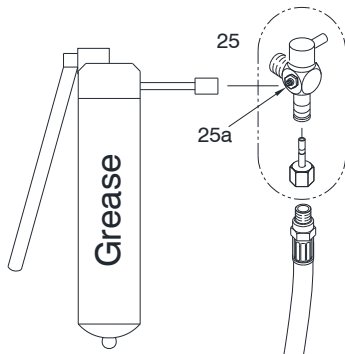

Fig. 7-5 Grease Fitting 25a On Relief Valve
2. Attach grease gun to lube fitting on relief valve. Refer to Figure 7-5.
The breaker's bushings and tool can be lubricated manually if needed. Attach the grease gun to lube fitting on relief valve. Refer to Figure 7-5.
Locate the grease nipple on the relief valve for manual greasing of the breaker (Fig. 7-5).